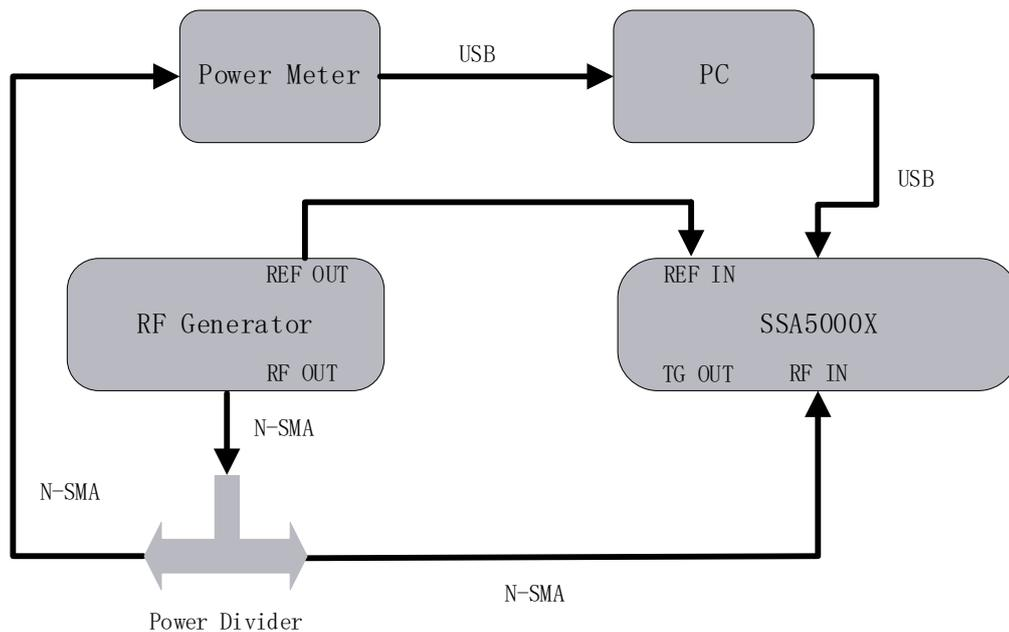

Figure 11 Diagram of Frequency Response Test System
1. Connect the spectrum analyzer, signal generator and power meter as Figure 11 shows